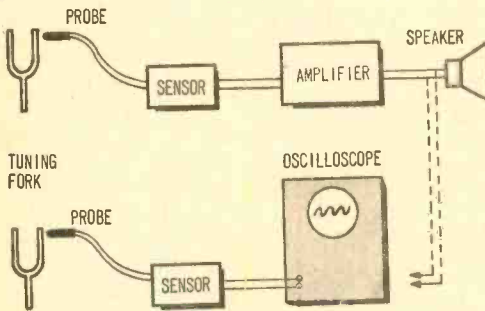

Fig. 7. If oscilloscope is not sensitive enough to display a waveform of sufficient magnitude, the signal can be amplified and picked off speaker line.
Fig. 7 shows how the sensor output is (1) connected directly to the vertical inputs of an oscilloscope for waveform studies or (2) connected to an amplifier-speaker system for amplification of the audible sound. As indicated, an oscilloscope can also be added to pick up the amplified signal if the scope used seems too insensitive to properly show the sensor output signal.